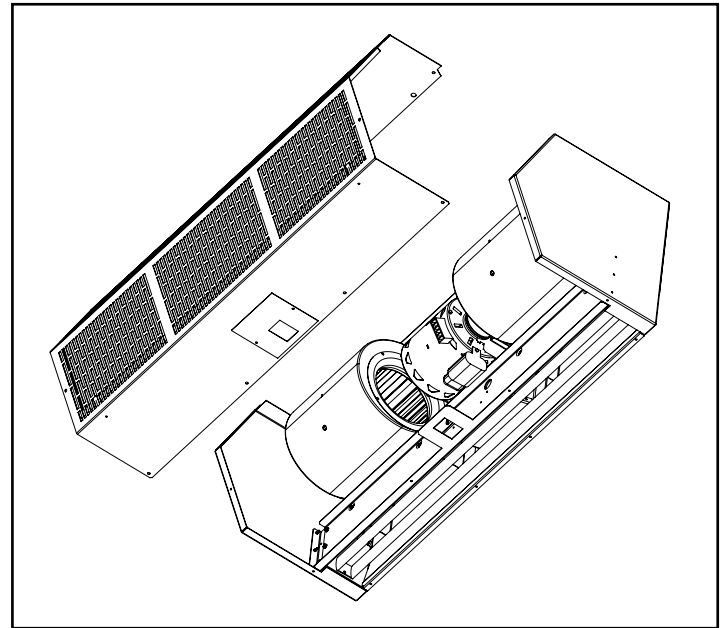

FIGURE 11
2. Remove the intake screen by removing the machine screws located around the bottom, front and top of the screen **See Figure 11.**